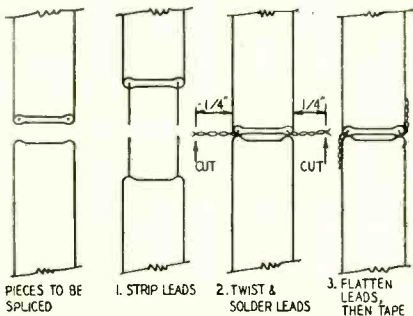

Fig. 3—Splicing 300-ohm transmission line for minimum change in impedance.
2. Twist the wires so they protrude sideways, as shown in Fig. 3.